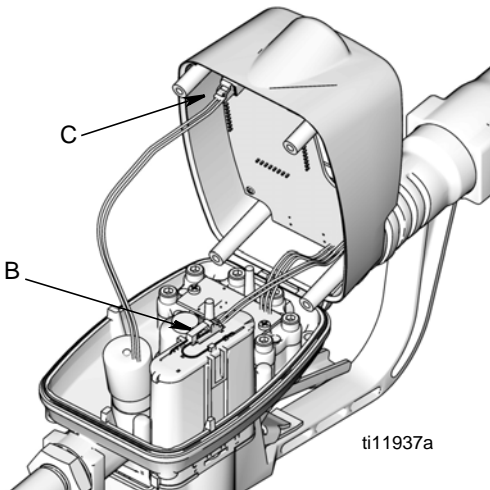

FIG. 2
2. Turn meter over and tilt cover back (FIG. 2).